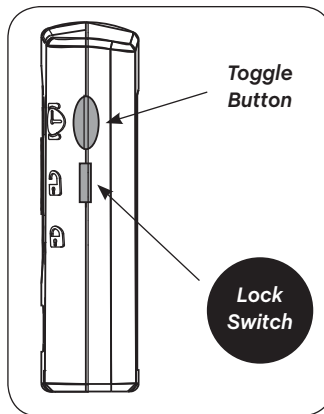

figure 11A: Slide to Unlocked Position
- A. Check to make sure the *Lock Switch* is in the 'unlocked' position (Figure 11A).
Once satisfied with the treatment settings, the settings may be locked to prevent unintentional shutoff during treatment by sliding the *Lock Switch* down into the 'locked' position as indicated by the symbols on the sam Power Controller (see Figure 11A). In this state the settings cannot be changed until the *Lock Switch* is moved back to the 'unlocked' position.